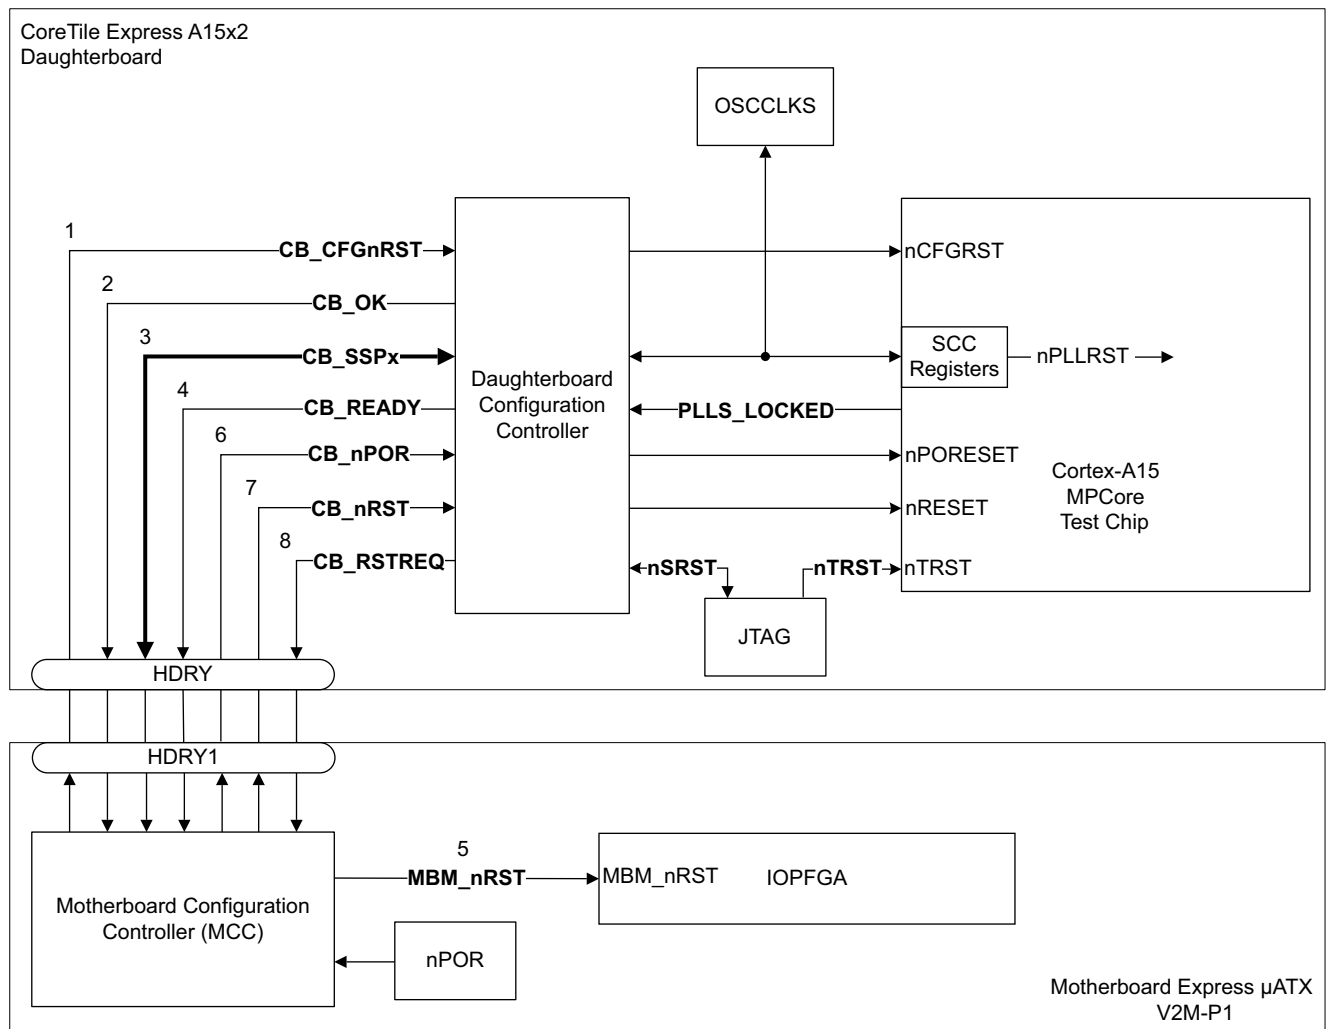
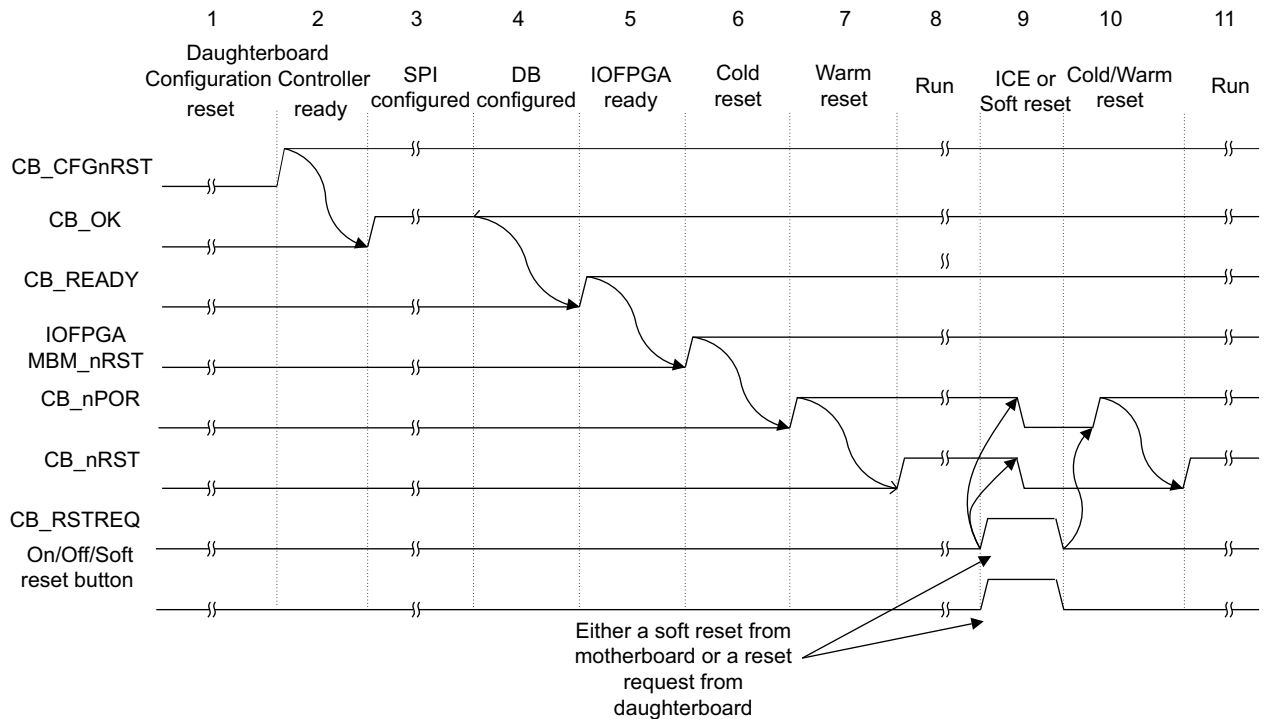

Figure 2-6 CoreTile Express A15x2 daughterboard resets
Figure 2-7 CoreTile Express A15×2 daughterboard configuration and reset timing cycle
Figure 2-6 shows an overview of the daughterboard reset signals, and includes configuration signals.
The numbers in Figure 2-6 on page 2-13 represent the stages in the reset and configuration process. See Figure 2-7.
Figure 2-7 shows the CoreTile Express A15×2 daughterboard power-up configuration and reset timing cycle.
a. Figure 2-7 on page 2-14 does not include these signals.